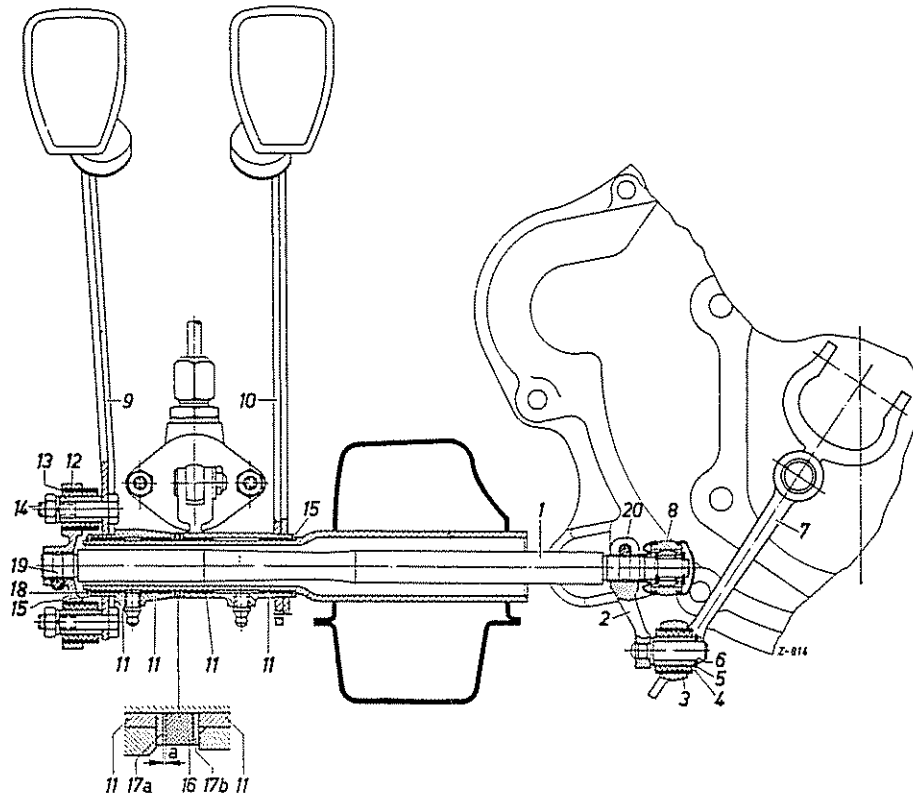

Fig. 29-10/1
- 3 a. In the case of the 4th version with swivel support unscrew the two hexagon nuts (14) on the flange (12) of the clutch pedal (9) and remove together with the lock washers (see Fig. 29-10/1).
4. Mark the relative position of the flange (12) and the pedal shaft (1). Unscrew the clomping screw (19) on the flange and press the flange off the clutch pedal shaft.
5. Remove the snap ring (18) and washer (15) from the mounting tube and pull off the clutch pedal.
6. Remove the washers (17) and (16) from the mounting tube (Fig. 29-10/1).
10. Install the brake pedal on the mounting tube; do not forget the rear washer (15) (see Fig. 29-10/1).
12. On cars not provided with a stay rod slide a spacer washer (17b), the Vulkollan washer (16) and a shim (17a) together with the clutch pedal onto the mounting tube instead of the washer and the spring washer. Install the washer (15) and install the snap ring (18) in the groove of the mounting tube (see Fig. 29-10/1).